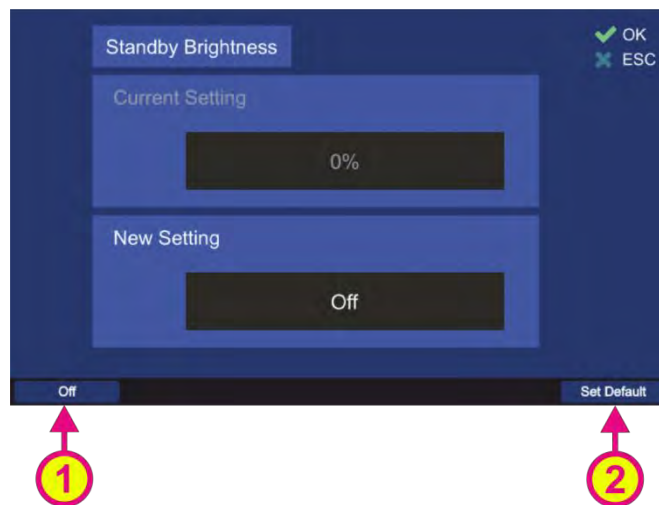

Figure 87. Adjusting the standby brightness
- Type the new value for the standby brightness value in the “New Setting” input field, using the numeric buttons of the DCU keypad or use the hotkey “Off” (s. Figure 87, position 1) in order to set the standby brightness to a “black screen”-value. If the setting “Off” is confirmed with “OK”, the display will be turned off after the button “Standby” is pressed.
- Use the “Set Default” hotkey (s. Figure 87, position 2) to reset the value to the default setting (0%).